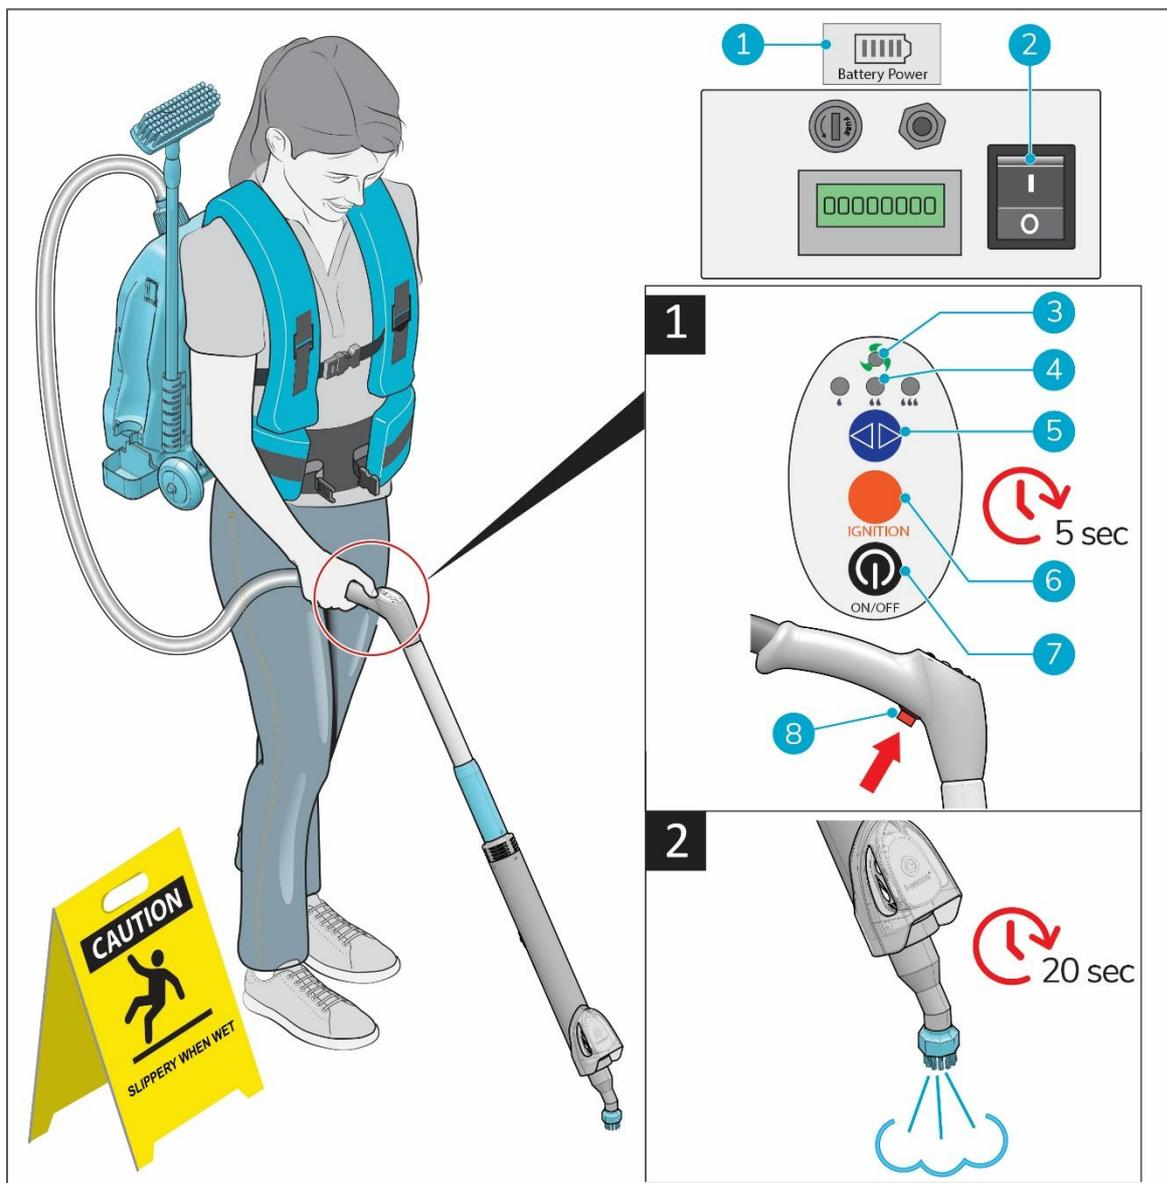

Figure 22
1. Turn on the i-gum® using the main power switch on the bottom (Figure 22, pos 2) left of the body.
2. Check the battery power indicator (Figure 22, pos 1). (See 6.1.1 for charging the built-in battery.)
13. Press the ON/OFF button (Figure 22, pos 7) on the handle control.
14. Press the H/M/L multi function button (Figure 22, pos 5).
16. Check the H/M/L indicator light (Figure 22, pos 4). When the indicator light L is on, the pump runs in full speed.
17. Release the H/M/L multi function button (Figure 22, pos 5) when rinse indicator light is on.
18. Press the SELF-LOCK button to start the gas flow (Figure 22, pos 8).
19. Press the IGNITION button (Figure 22, pos 6) for 2 seconds. You can hear the gas heater is burning. The pump starts.
21. Check the H/M/L multi function indicator light (Figure 22, pos 5). The pump will default operate at low speed (see 6.3.1).